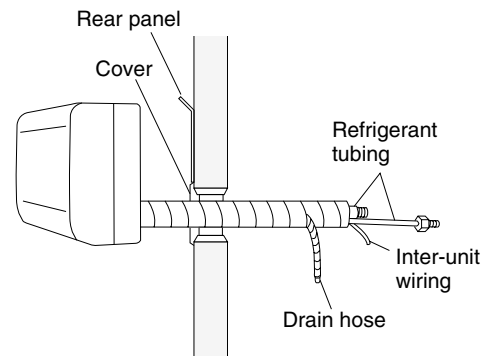

Fig. 3-105
- (1) Shape the refrigerant tubing so that it can easily go into the wall hole. (Fig. 3-105)